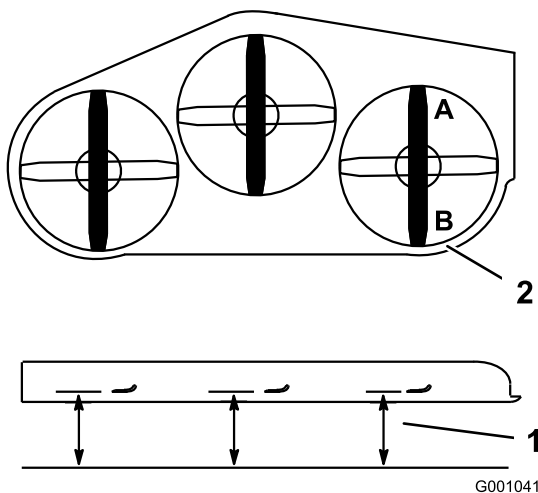

Figure 70
- Position the right blade front-to-rear (Figure 70).
- Measure the right blade at the **A** location, from a level surface to the cutting edge of the blade tip (Figure 70).
- Measure the right blade at the **B** location, from a level surface to the cutting edge of the blade tip (Figure 70).
- The mower blade should be a 1/4 to 3/8 inch (6 to 10 mm) lower at position **A** than at position **B** (Figure 70). If it is not correct, proceed to the following steps.